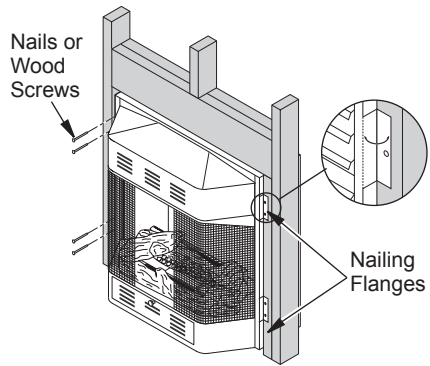

Figure 7 - Attaching Fireplace to Wall Studs
7. Bend four nailing flanges on outer casing with pliers (see Figure 7).